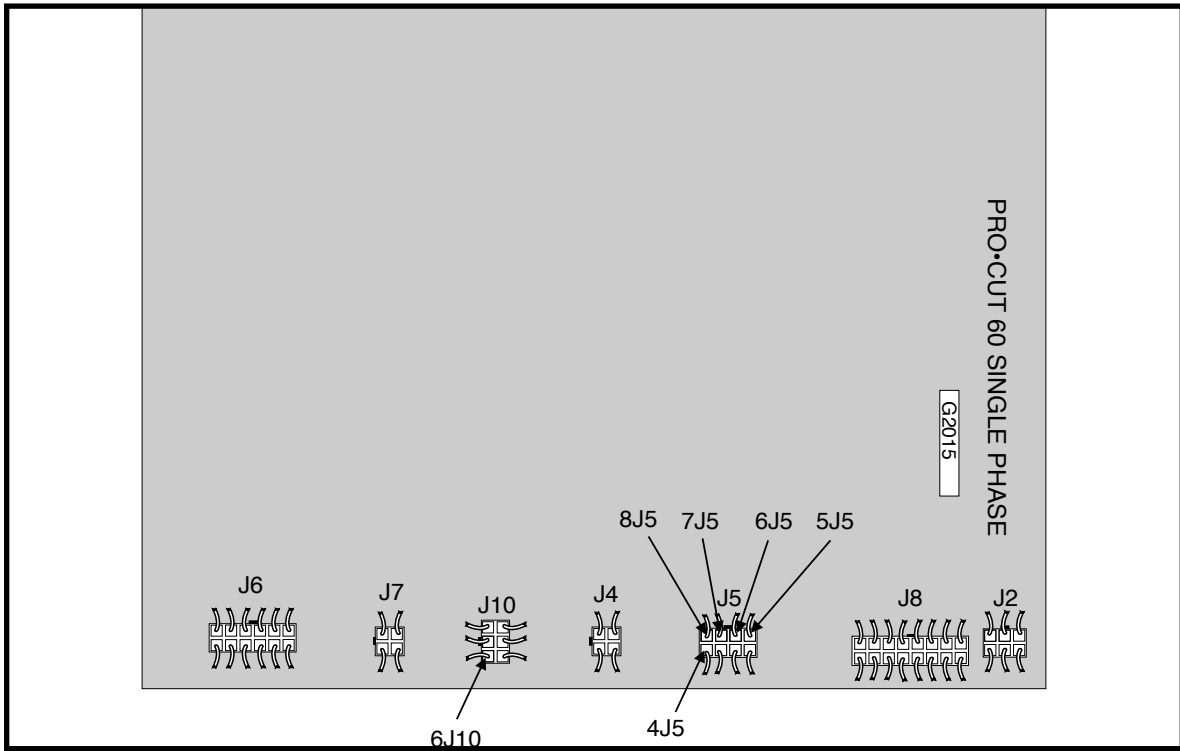

FIGURE F.1 - Control Board Connector Locations
6. Locate Plug J5 on the Control Board. See **Figure F.6** and **Figure F.1** for the location of the Control Board and Plug J5.